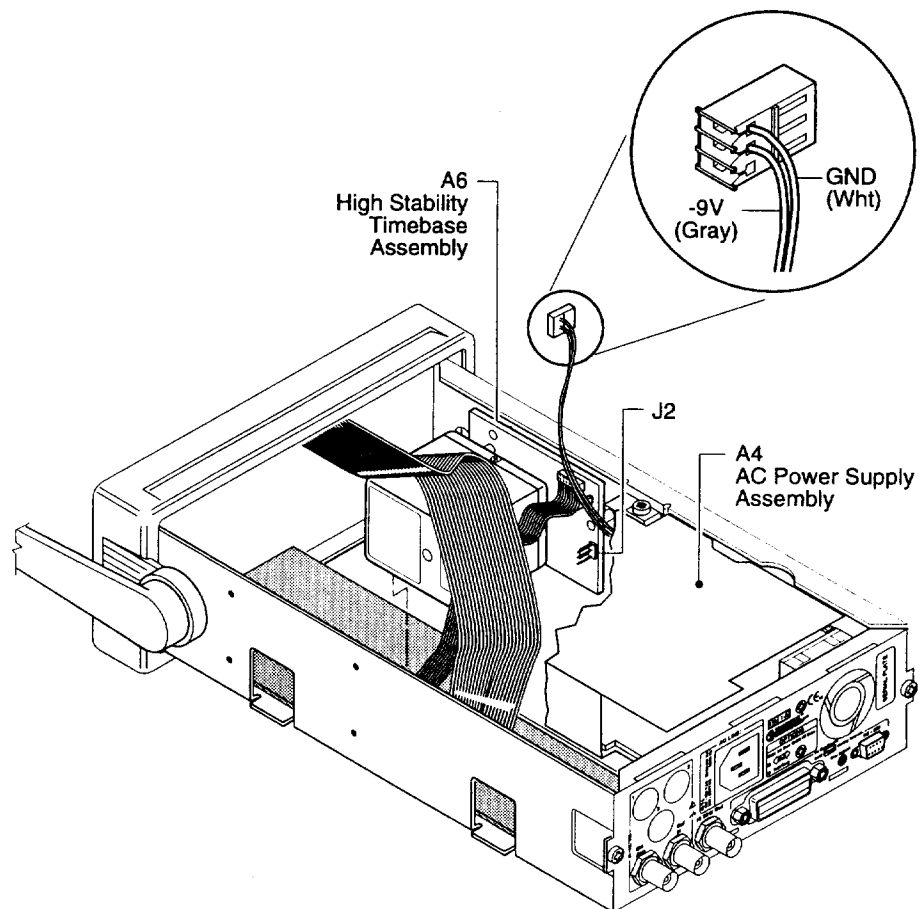

Figure 2-10. A4 AC Power Supply -9V Output Check (Option 010/012 Only)
- a. Disconnect the power supply's two-wire cable from J2 of A6 High Stability Timebase Assembly as shown in Figure 2-10.
- b. Connect the negative lead of a voltmeter to the white wire connection (GND) on the connector of the two-wire cable, and connect the positive lead to the gray wire connection (-9V) as shown in Figure 2-10.